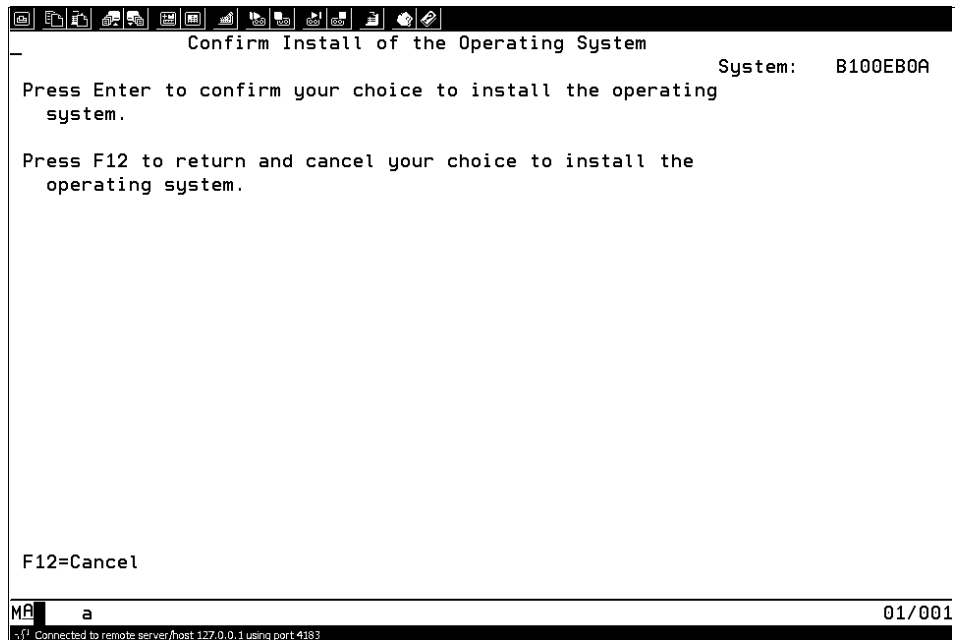

Figure 7-60 Confirm installation
2. The Confirm Install of the Operating System screen is displayed on the console screen, as shown in Figure 7-60 on page 305.